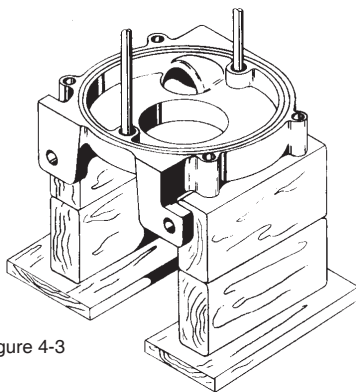

Figure 4-3
- Wood blocks as shown in Figure 4-3
3. It is recommended that the assembly be placed on blocks in a vertical position as shown.(refer to figure 4-3)